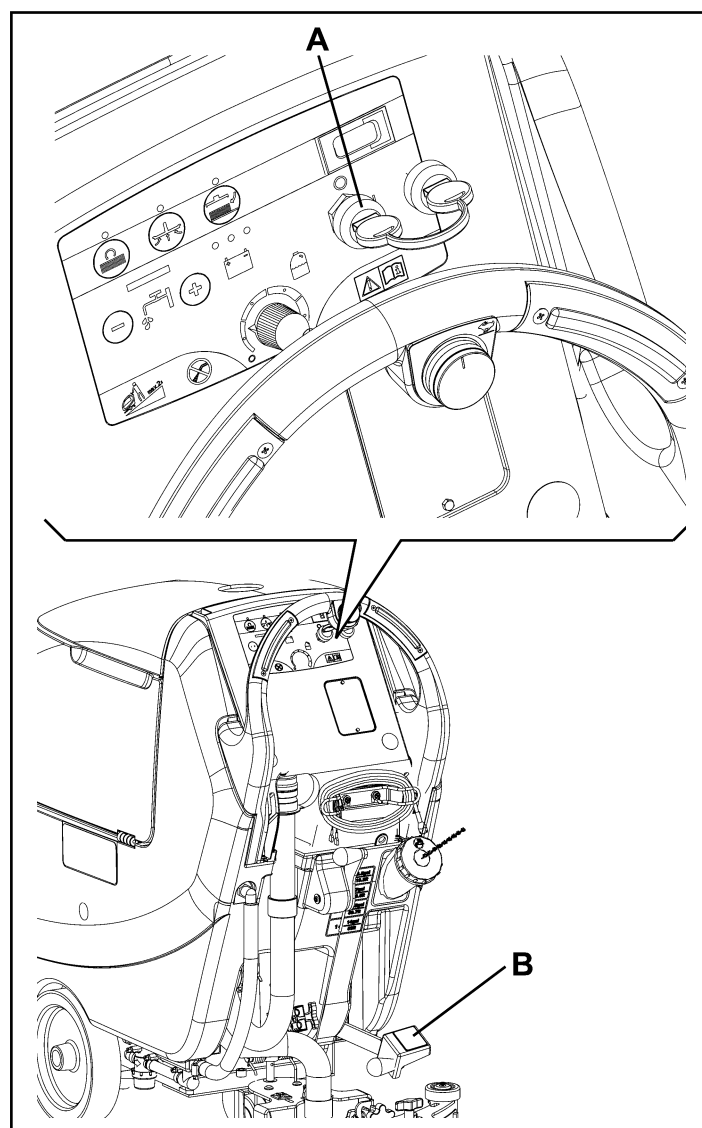
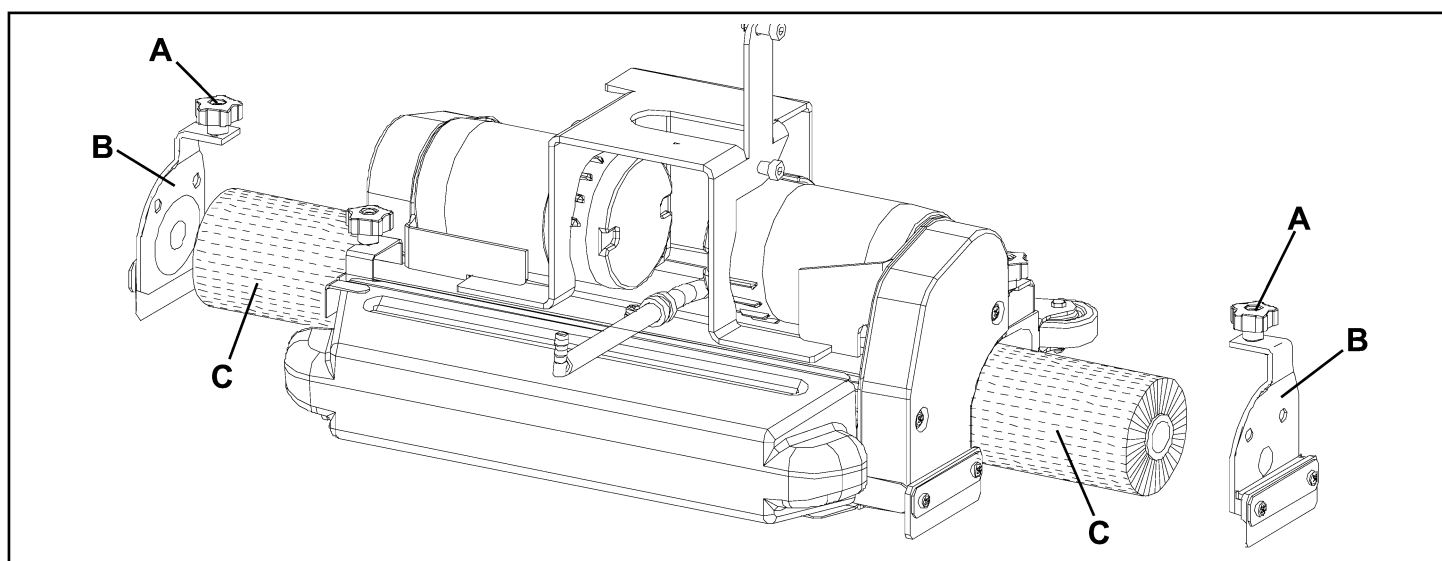

Figure 11
Figure 12
1. Turn the ignition key (A, Fig. 11) to "0".
2. Lift the cylindrical brush deck by pressing the pedal (B).
3. Turn the knobs (A, Fig. 12) and remove the doors (B) by pushing them downwards and pressing on the knobs.
4. Install the cylindrical brushes (C).
5. Install the doors (B) and fasten them with the knobs (A).